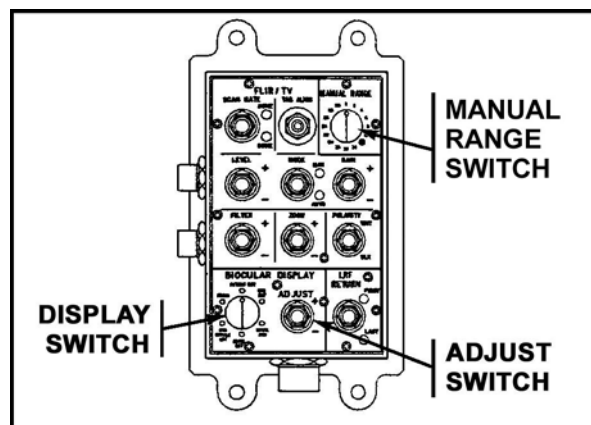

Figure 26. GSCP MANUAL RANGE switch.
- (1) Select HI MAG using the HI/LO MAG switch on the GHS.
(2) Manually traverse the turret and elevate or depress the gun until the boresight telescope reticle is centered on the boresight panel.
(3) Center the CIV TV reticle onto the boresight panel using the GHS.
(4) Enter the range manually using the GSCP (Figure 26).